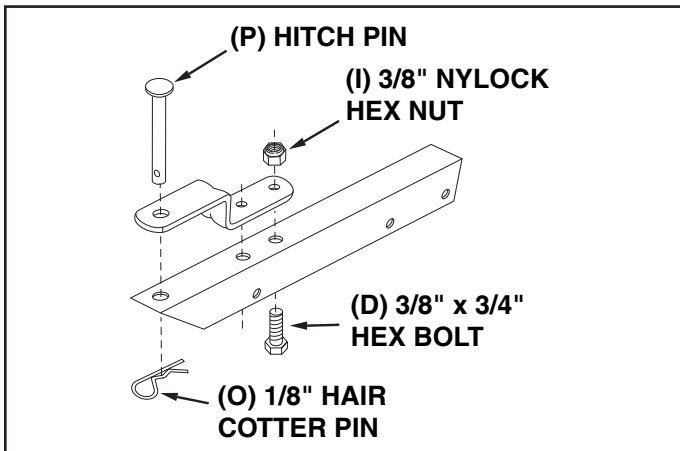

FIGURE 16
27. Assemble the hitch bracket to the hitch extension bracket using two 3/8" x 3/4" hex bolts (D) and 3/8" nylock hex nuts (I). Insert the bolts from the bottom. See figure 16.
28. Assemble the hitch pin (P) through the hitch bracket and the hitch extension bracket and secure with the hair cotter pin (O). See figure 16.